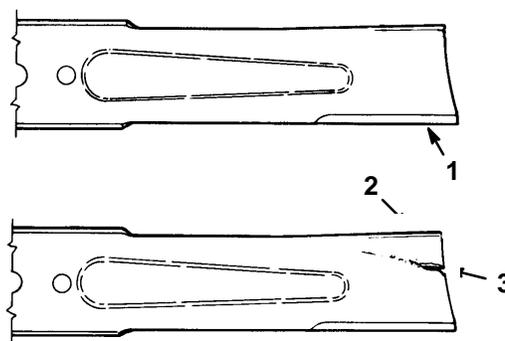

Figure 30
2. Inspect the cutting edges (Fig. 30). If the edges are not sharp or have nicks, remove the blade(s) and sharpen them; refer to Sharpening the Blade(s), page 20.
3. Inspect the blade(s), especially the curved area (Fig. 30). If you notice any damage, wear, or a slot forming in this area (Fig. 30), immediately install a new blade.